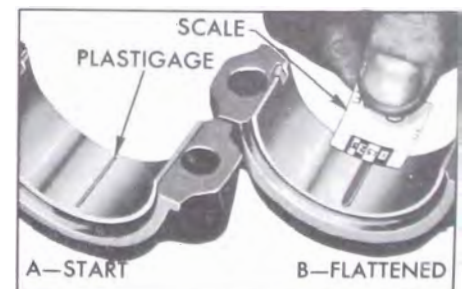

Figure 2-39—Checking Bearing Clearance with Plastigage
2. Place a piece of Plastigage lengthwise along the bottom center of the lower bearing shell (Figure 2-39, view A), then install cap with shell and tighten bolt nuts to 40-45 ft. lbs. torque.
5. Using the scale printed on the Plastigage envelope, measure the flattened Plastigage at its widest point. The number within the graduation which most closely corresponds to the width of Plastigage indicates the bearing clearance in thousandths of an inch. See Figure 2-39, View B.